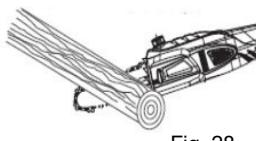

Fig. 28
**OVERBUCKING** - Begin on the top side of the log with the button of the saw against the log; exert light pressure downward. Note that the saw will tend to pull away from you. (Fig. 28)
**UNDERBUCKING** - Begin on the under side of the log with the top of the saw against the log; exert light pressure upward. During under-bucking, the saw will tend to push back at you. Be prepared for this reaction and hold the saw firmly to maintain control. (Fig. 28)